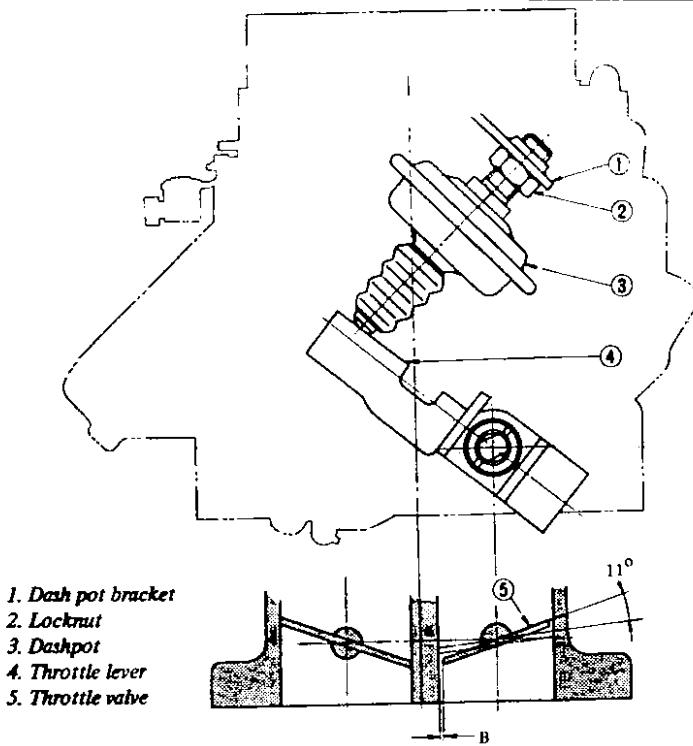

Fig. D.11 Adjusting the dash pot clearance
This adjustment is only required on carburetors fitted to vehicles with automatic transmission. Correct contact must be made between the throttle lever and the dashpot stem (See Fig.D.11.). Adjustment can be carried out, if necessary by slackening the locknut (2) and then rotating the dashpot in either direction so that the throttle arm touches the stem at a throttle valve opening angle of 110°. At this angle the clearance "B", between the throttle valve and the wall of the chamber should be as follows: